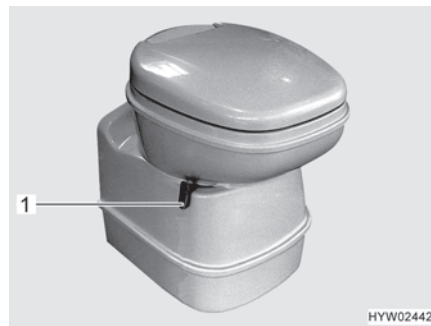

Fig. 178 Thetford toilet bowl, swivelling
- Before flushing open the sliding trap of the Thetford toilet. To do this, push the slide lever (Fig. 178,1) in an anticlockwise direction.